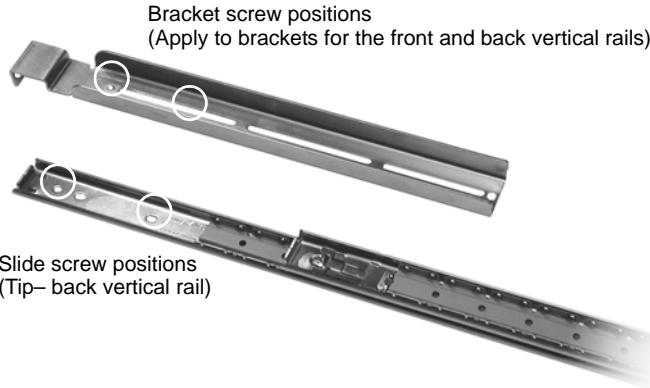

FIGURE 1-16. Screw positions for the back vertical rail
- a. Assemble the bracket and slide pair for the back vertical rail by locating the screw holes and aligning their positions. See *Figure 1-16* for the screw holes and positions.